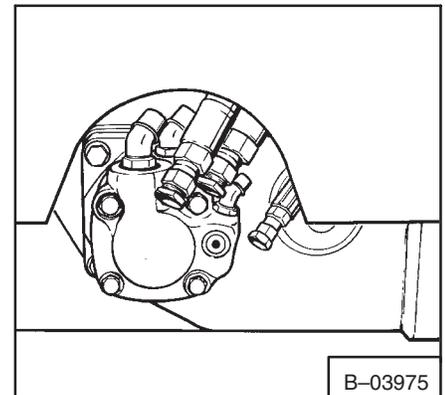

Fig. 3-80 Installing The Motor
1. Install the motor into the chaincase (Fig. 3-80).